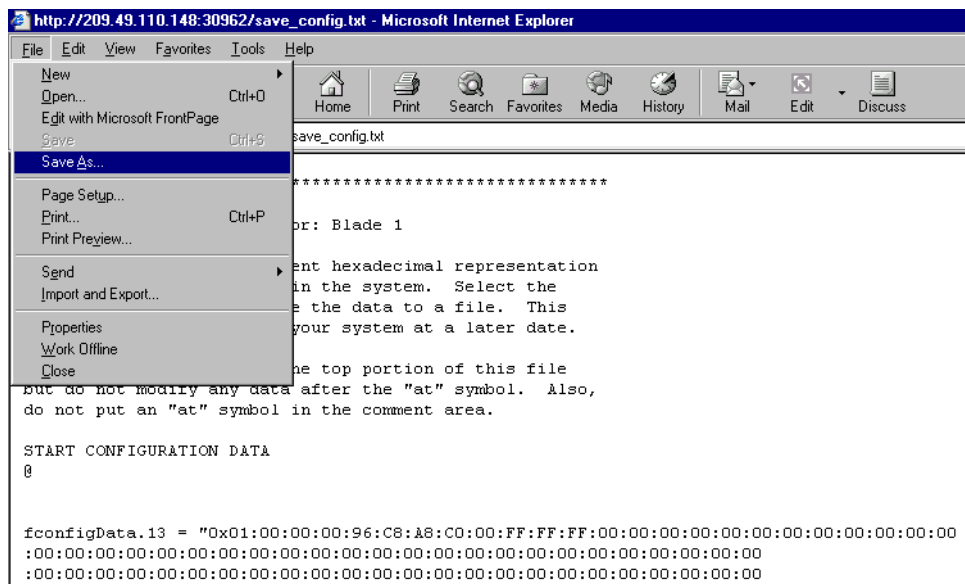

Figure 53. Saving the access server flash memory configuration data as a text file
– To save the displayed data as a text file, use your browser's **Save** function (figure 53). Using Netscape or Internet Explorer, for example.